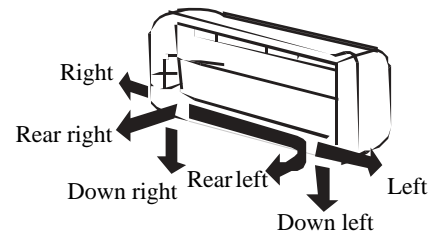

Fig. 11-2
- As shown in fig.11-2, pipe can go out from 6 directions one of which can be selected according to need.